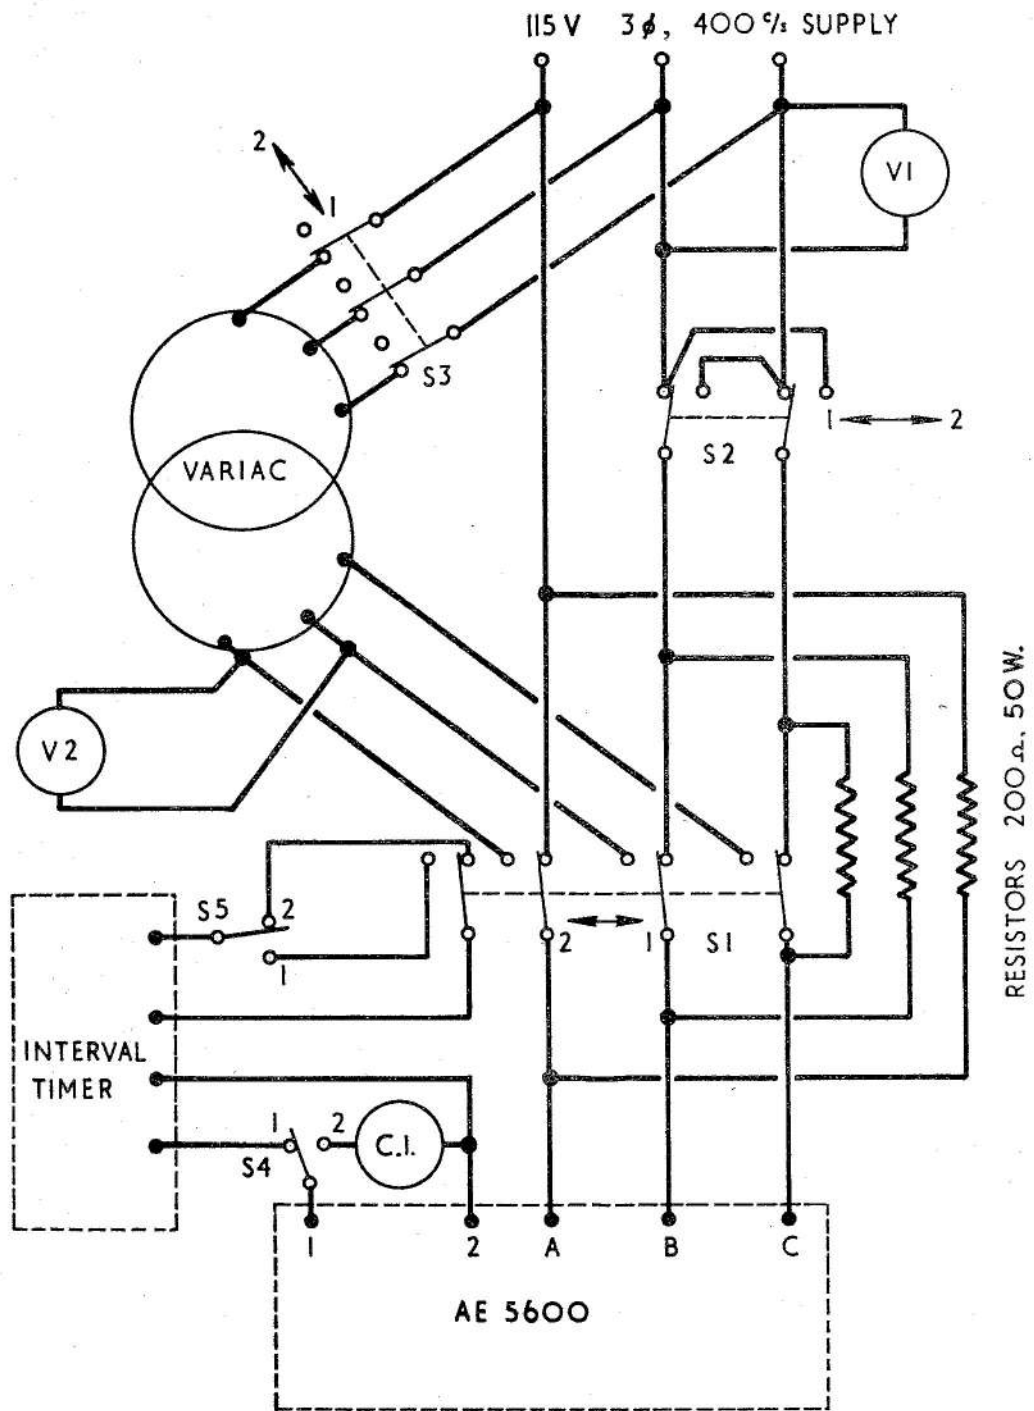

Fig. 1. Test circuit
4. (1) Connect unit to test circuit shown in fig. 1.